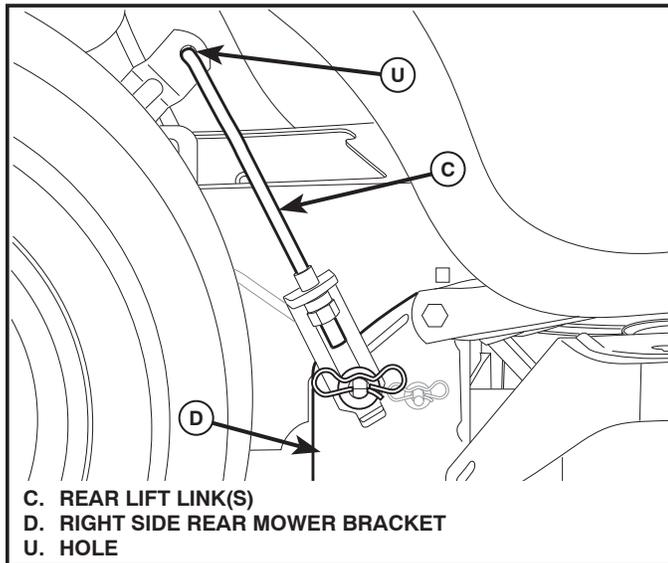

Fig. 28
7. ATTACH REAR LIFT LINKS (C) (See Fig. 28)
- Insert rod end of rear lift link (C) into hole (U) in tractor lift shaft suspension arm and pivot link down to mower.
- Lift rear corner of mower and position slot in link assembly over pin on rear mower bracket (D) and secure with large washer and large retainer spring.